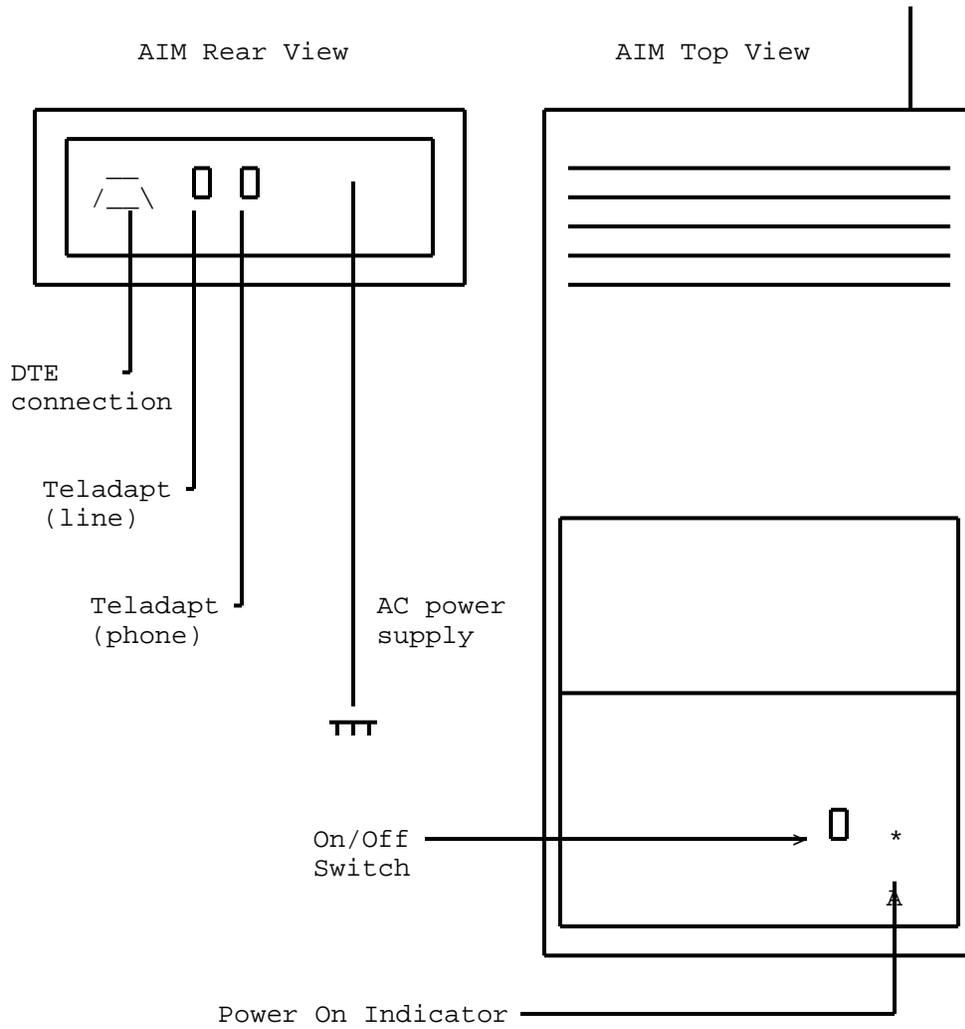

Fig. 1 - QMT9A Asynchronous Interface Module - Rear and Top View
2.08 The QMT9A Asynchronous Interface Module (AIM), available with BCS18 and higher software, is similar in appearance to the regular Data Unit (Fig. 1). It is packaged in a chameleon ash colored plastic housing that is 12.5 in (317.5 mm) long, 7.5 in (190 mm) wide. The module has a 4° slope with a front height of 1 3/4 in (44.5 mm) and a rear height of 2 3/4 in (70 mm). It weighs approximately 2 lb (1 kg).